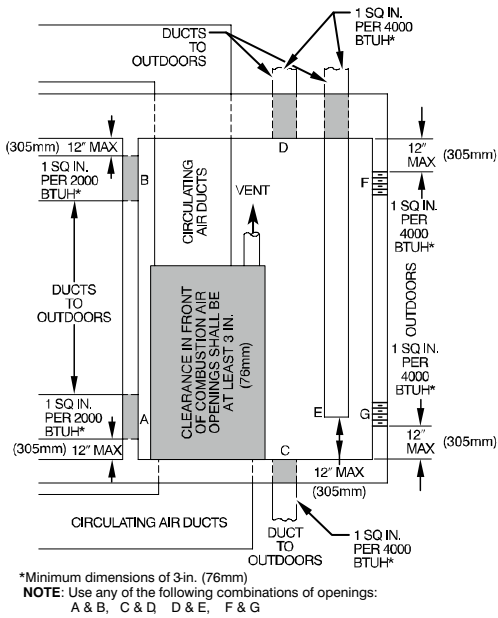

Fig. 6 – Air for Combustion, Ventilation, and Dilution for Outdoors
2. Fig. 6 illustrates how to provide TWO OUTDOOR OPENINGS, one inlet and one outlet combustion and ventilation air opening, to the outdoors.
- b. Size openings and ducts per Fig. 6 and Table 4.
- c. TWO HORIZONTAL DUCTS require 1 sq. in. (645 sq. mm) of free area per 2,000 BTU/h (1,100 mm²/kW) of combined input for all gas appliances in the space per Fig. 6 and Table 4.
- d. TWO OPENINGS OR VERTICAL DUCTS require 1 sq. in. (645 sq. mm) of free area per 4,000 BTU/h (550 mm²/kW) for combined input of all gas appliances in the space per Fig. 6 and Table 4.
- a. 1 sq. in. (645 sq. mm) of free area per 3,000 BTU/h (734 mm²/kW) for combined input of all gas appliances in the space per Fig. 6 and Table 4.